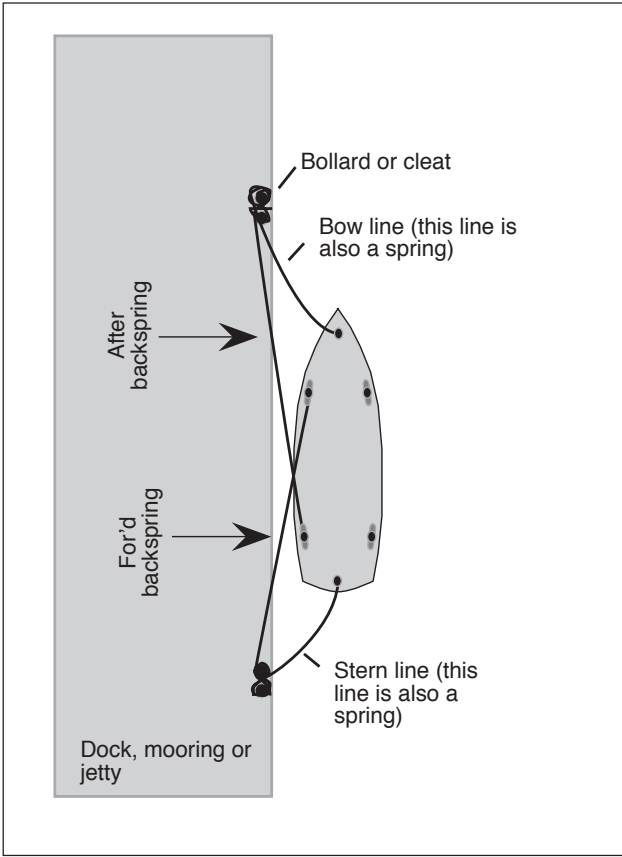

Figure 22.2 Boat tied up at a dock (Thanks Graeme and Peter)
1. Figure 22.2 shows a boat tied up at the dock.
Use the information from Figure 22.2, as well as the information in the box, to describe how A and B should successfully tie up the boat.